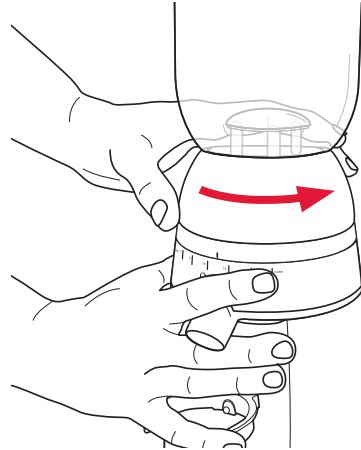

Figure 7
2. To remove the bean hopper with top burr and collar from the grinder base, turn the collar anti-clockwise until it stops. See figure 7.